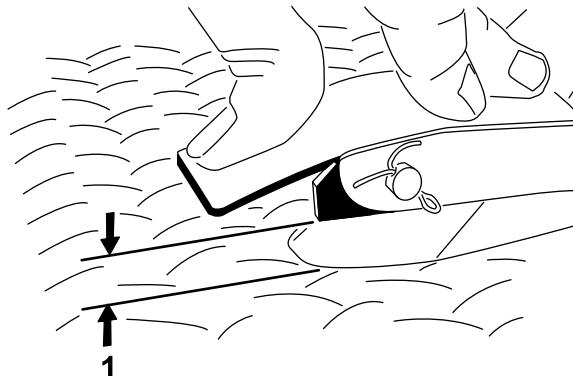

Figure 60
6. Adjust the ball joint on the accelerator cable and/or cable jam nuts while the throttle lever is against the high-idle stop to allow 2.54 to 6.35 mm (0.100 to 0.250 inch) of clearance between the accelerator pedal arm and the top of the diamond tread floor plate, when you apply 11.3 kg (25 lb) of force to the center of the pedal (Figure 60). Tighten the locknut.